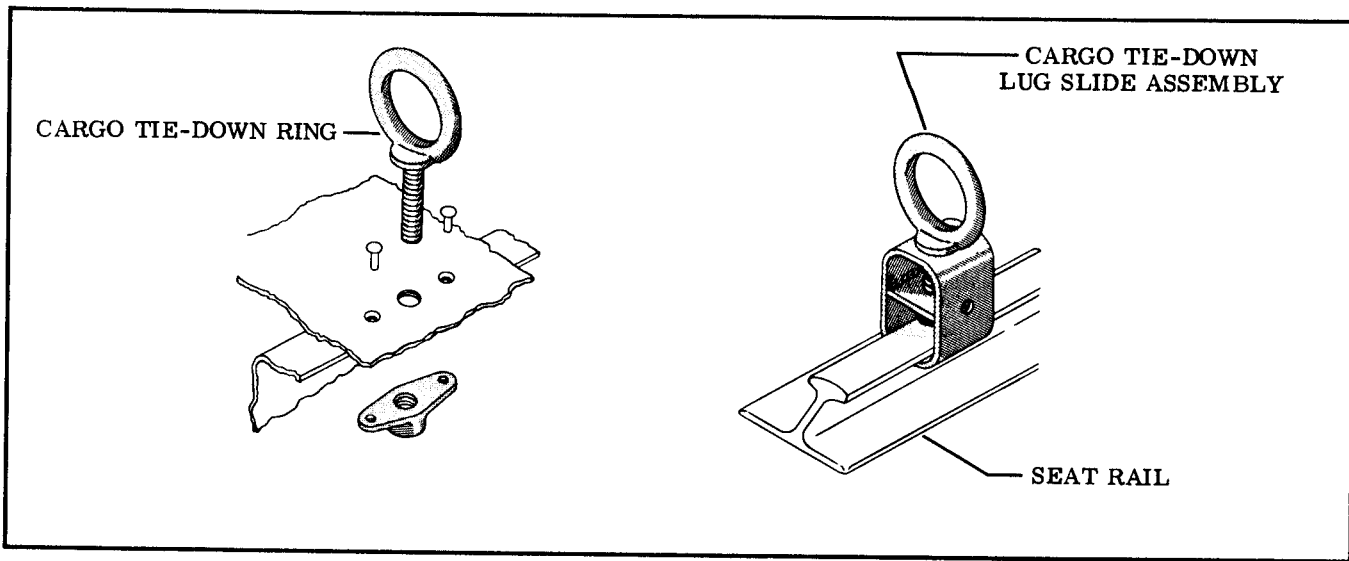
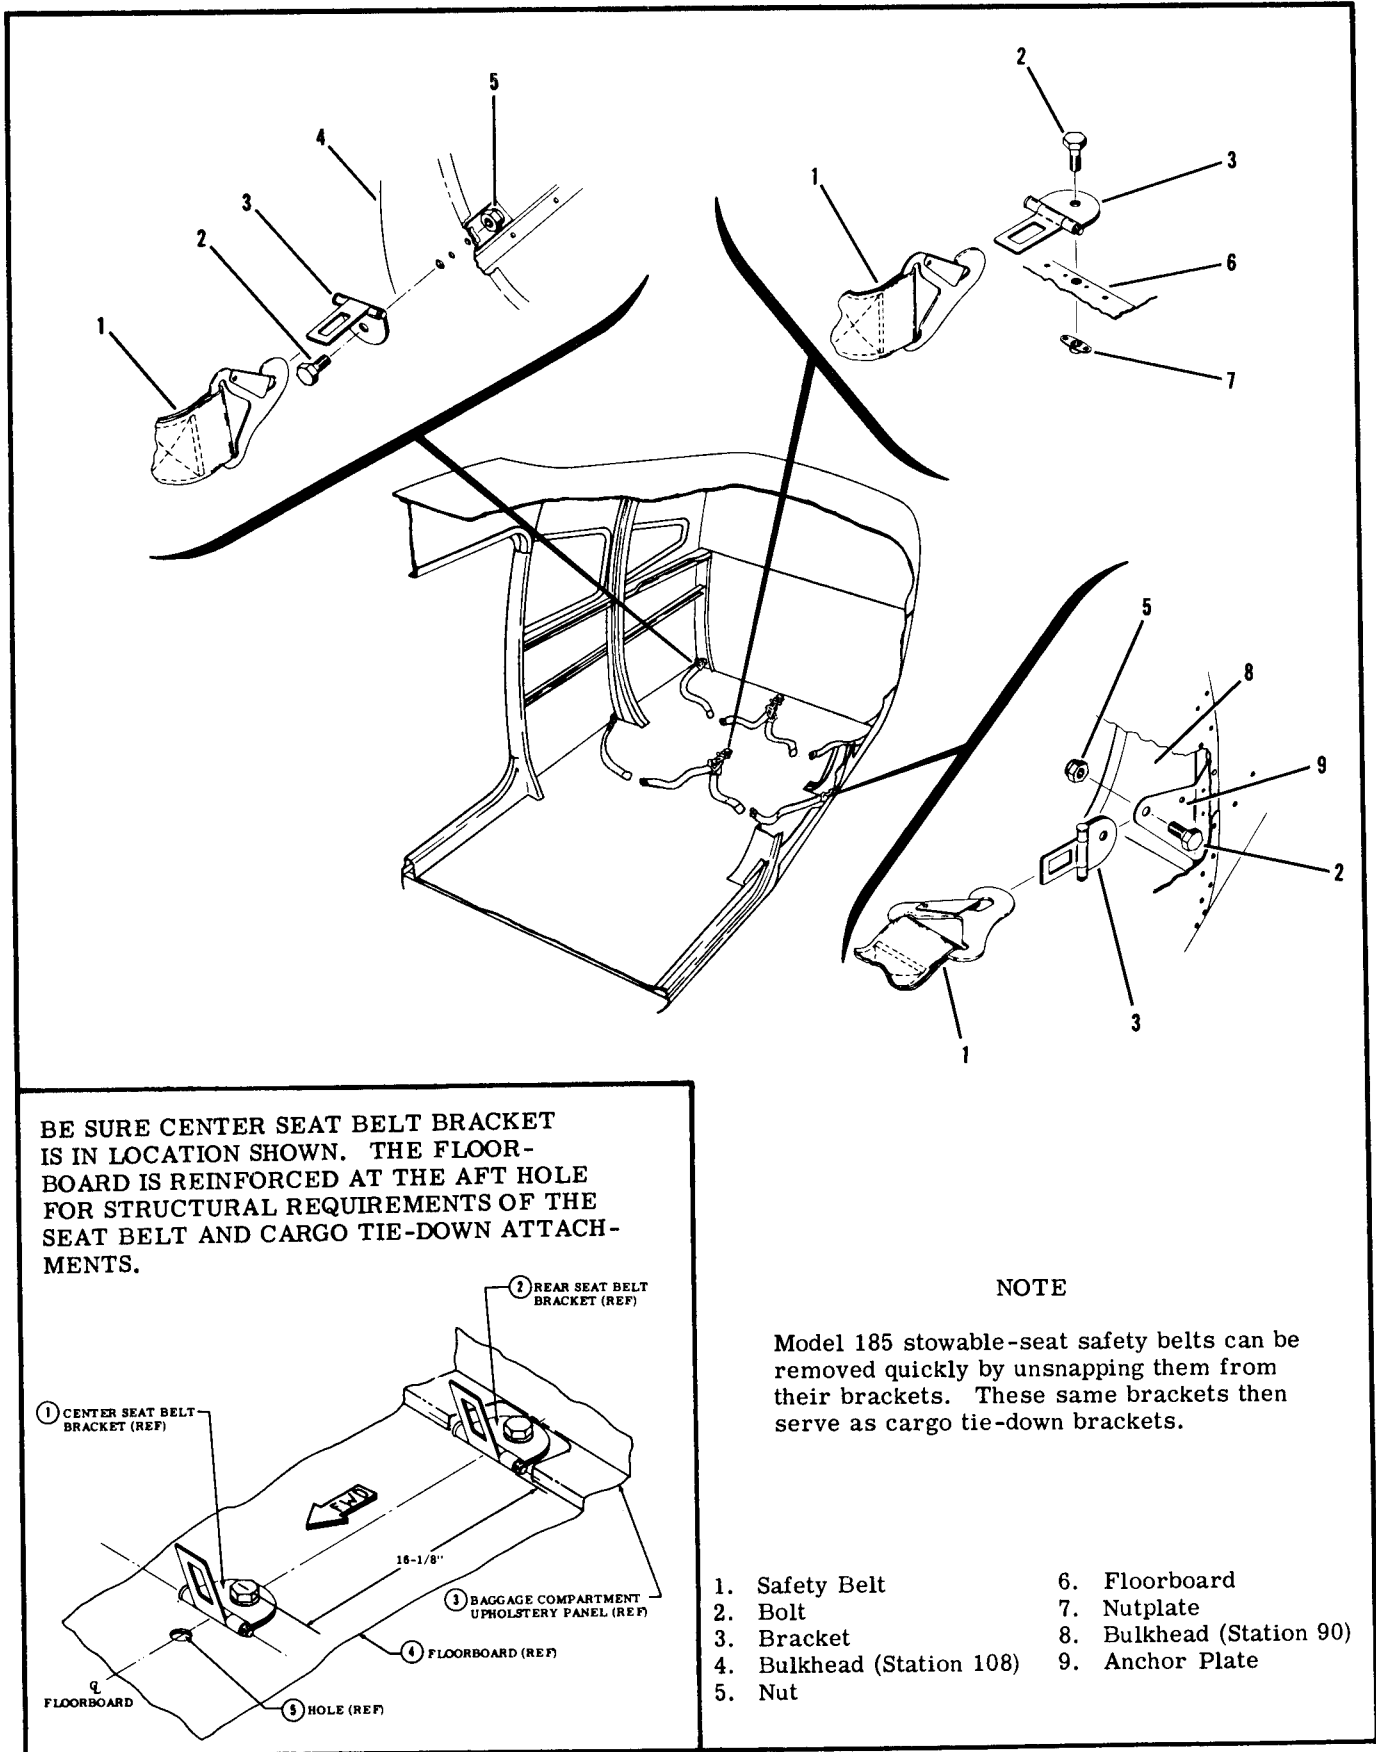
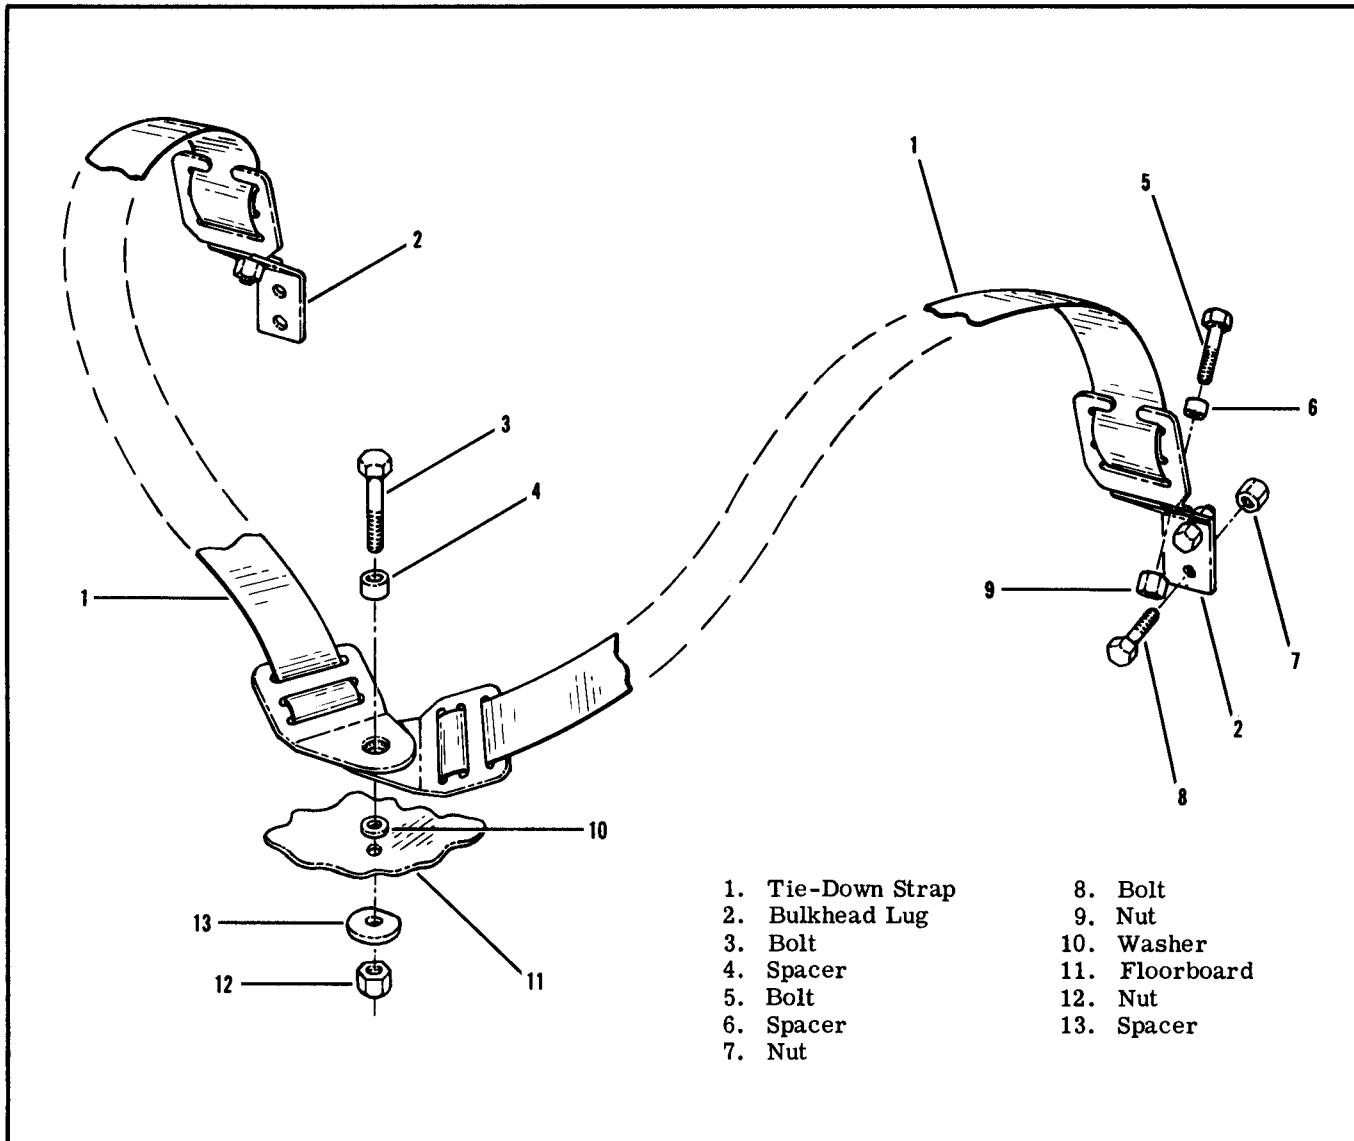

Figure 3-17. Cargo Tie-Down Rings
Figure 3-18. Safety Belt and Cargo Tie-Down Provisions (Utility Model 185)
Figure 3-19. Model 150 Adjustable Cargo Tie-Down Straps
See figure 3-18 for safety belts and cargo tie-downs.
c. Model 185 stowable-seat safety belts are quickly removable to permit rapid change from passenger to cargo configuration. After unsnapping the safety belts, the safety belt attachment fittings are used to tie down cargo. See figure 3-18 for details of these fittings.
3-38. CARGO TIE-DOWN PROVISIONS. Optional cargo tie-down rings may be installed in all aircraft except the Model 150. Excluding the Model 185, which has a different tie-down ring arrangement, provisions for the rings consists of six nutplates into which eyebolt-type tie-down rings may be installed. One is installed in the floorboard on each side of the cabin near the rear doorpost. One is installed in the floorboard on each side of the baggage compartment just in front of the rear wall. One is installed in the floorboard on each side of the cabin at the bulkhead just in front of the baggage door. Beginning in 1962, the Model 182 utilizes the nutplates in the rear seat support brackets, when the rear seat is removed, instead of the floorboard nutplates in front of the baggage door. Additional rings of a different type may be attached to the aft end of front seat rails. Both types are shown in figure 3-17. In
the Model 185, six cargo tie-down rings, similar to the one shown on the seat rail in figure 3-17, are available as optional equipment. Two rings are installed at the front of the copilot's seat rails when the seat is removed; the remaining four are installed on the aft end of the front seat rails. Additional tie-down provisions on the Model 185 are the six stowable-seat safety belt attachment fittings in the rear cabin area (refer to figure 3-18). Removal of the quick-release safety belts permits use of the fittings for cargo tie-down. In the Model 150, cargo tie-down provisions consist of two adjustable tie-down straps secured to the center of the floorboard just aft of the seats, running aft and outboard to bulkhead attachments at the baggage compartment rear wall (refer to figure 3-19). Whenever the Model 150 is equipped with optional reclining seats, installation of the tie-downs is mandatory.